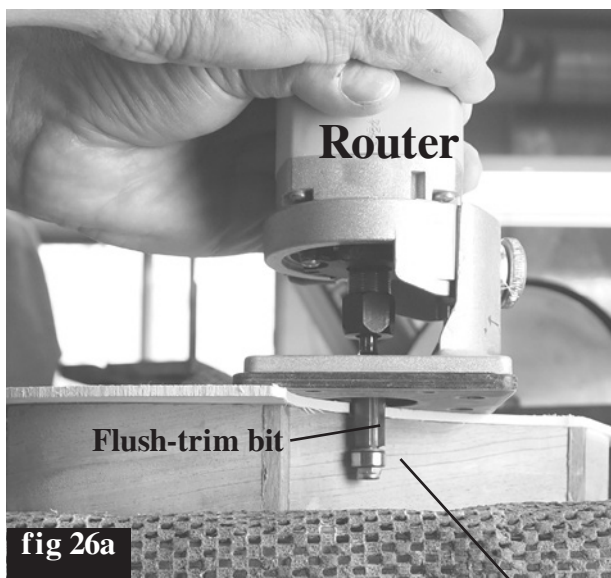

fig 26a
**OPTION #4: ROUTER** (figs 26a & 26b): This is our preferred trimming tool because it is fast, safe and accurate. Take care, however, to move the router in a clockwise direction around the soundboard (fig 26-b). This is called a "climb cut" because the router bit is pulling the machine that same direction, "climbing" through the wood. If you push the router against the spin of the bit, you will likely chip the soft wood and cause damage to the edges. You don't need a large router for this step, but you can certainly use a larger one than shown here.